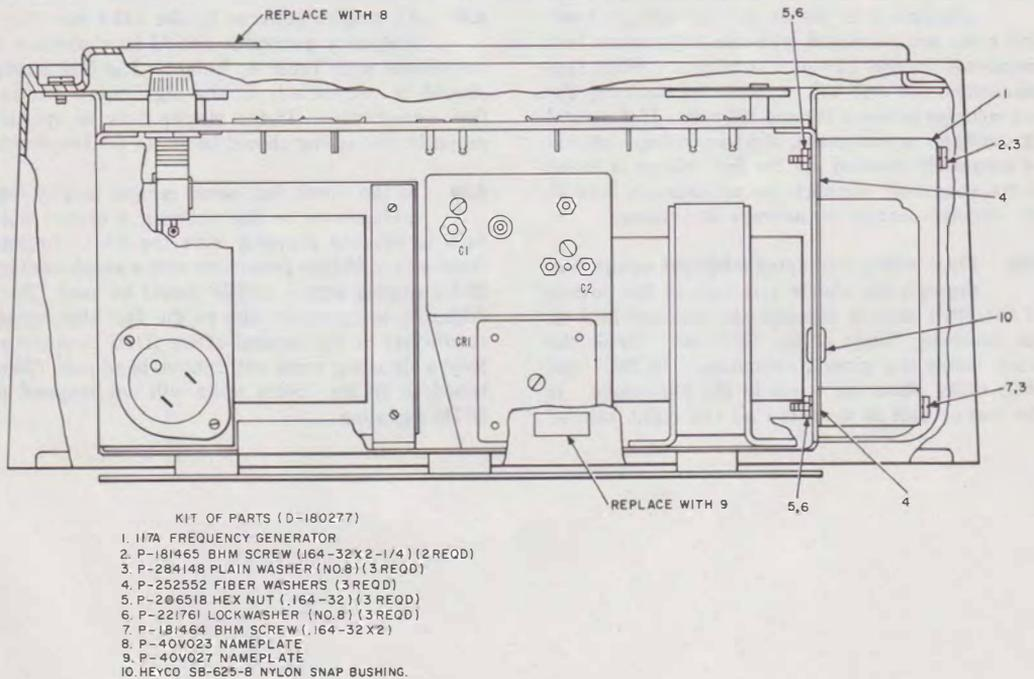

Fig. 1—Modification of 29B1 Power Unit to Incorporate 30-Hz Ringing Power
2.04 The 29B1 power unit can be modified to include 30-Hz ringing power by adding the D-180277 KIT OF PARTS to the unit as shown in Fig. 1.
After the power unit has been modified in accordance with Fig. 1, connect the frequency generator to the power unit as follows: